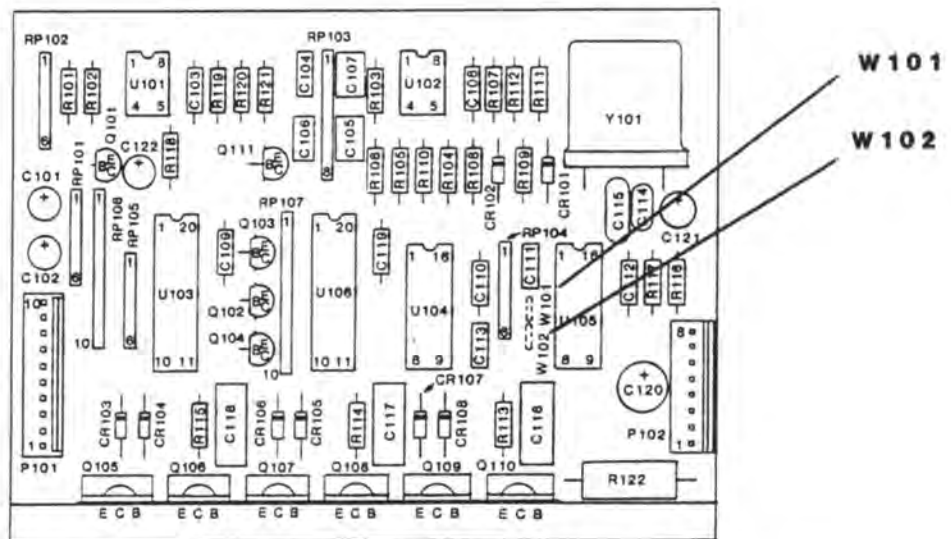

Fig. 2-10
4. SERVO MOTOR SPEED: Standard motor speed is set at 7 1/2 IPS as supplied from the factory, unless otherwise specified when ordered. Units may operate at 3 3/4 IPS by performing the following modification: On the MOTOR CONTROL PCB, (Figure 2-10), cut foil trace W101 on the PCB back side. Load wire jumper W102 as shown.